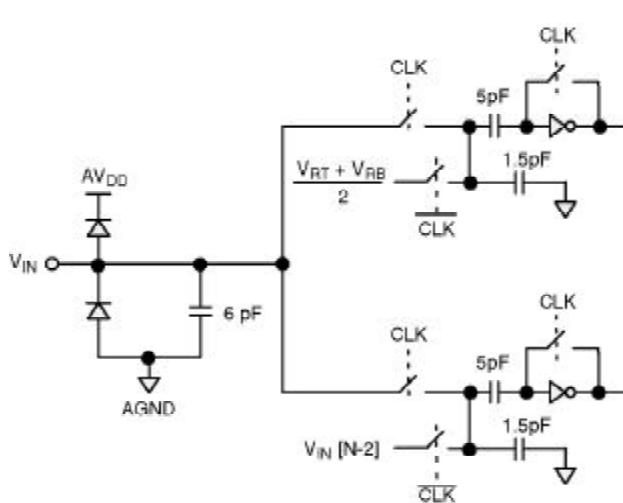

Figure 5. Equivalent Input Circuit
5. See V_{IN} input equivalent circuit (Figure 5). Switched capacitor analog input requires driver with low output resistance.
The reference can be biased internally by shorting V_{RT} to V_{RTS} and V_{RB} to V_{RBS} . This will generate 0.6V at V_{RB} and 2.6V at V_{RT} (see Figure 5).